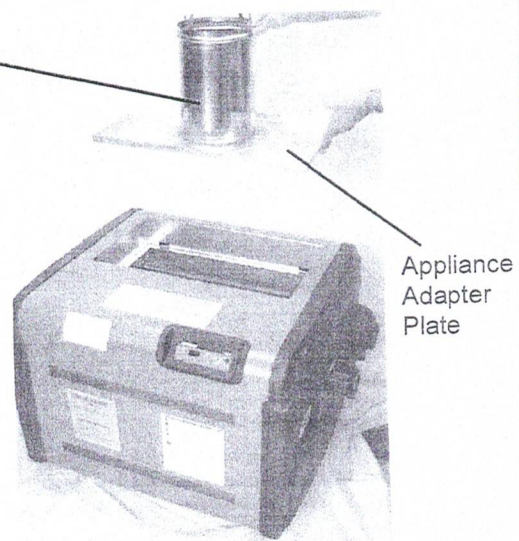

FIGURE 5
6. Install the vent pipe adapter plate included in this kit into the heater using the #10 screws included with this kit. Ensure the white gaskets are in place under the vent pipe adapter plate before installing. See Figure 5.